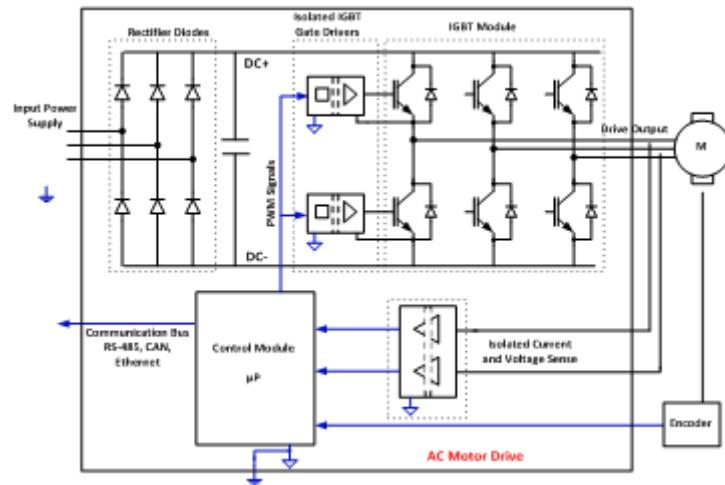
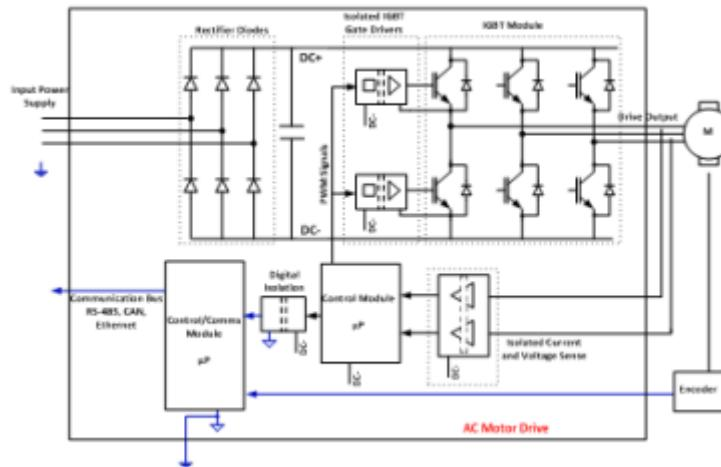

Figure 1. Simplified block-diagram of a typical AC motor drive
Figure 2. Alternative architecture of an AC motor drive
Step 1: Identify all of the isolators in the design and determine if they need functional, basic or reinforced isolation, depending on if and how they are placed in the path between the high-voltage circuits and human-accessible parts of the drive. The isolated gate-drivers, isolated current and voltage sense elements in Figure 1 need reinforced isolation. In Figure 2, these need only functional isolation, because reinforced isolation is provided by the digital isolators.